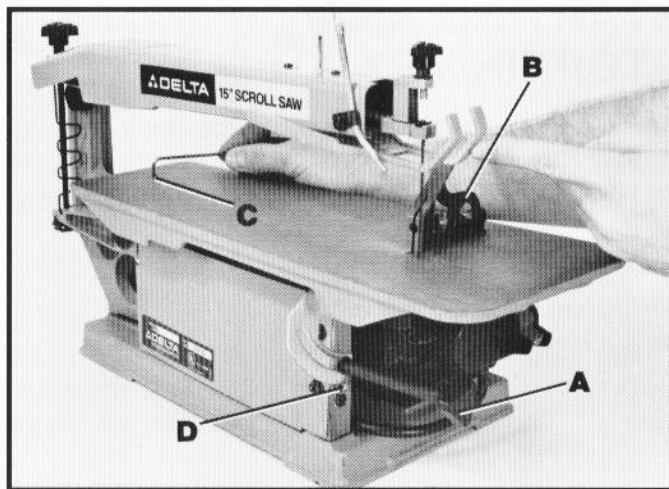

Fig. 17
1. Loosen table tilting lock knob (A) Fig. 17, and move the table all the way to the right. Then lock the table lock knob (A).
2. Place a small square (B) on the table surface with one end of the square against the blade, as shown in Fig. 17, and check to see if the table is at 90 degrees to the blade.
3. If an adjustment is necessary, loosen table tilting lock knob (A) Fig. 17, and turn set screw (C) until the set screw (C) contacts the frame when the table is at 90 degrees to the blade. Then tighten table lock knob (A) and adjust pointer (D) to point to the 0 degree mark on the scale.